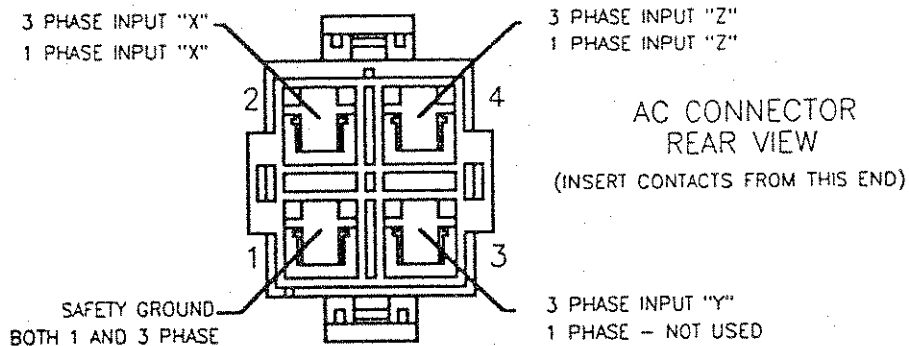

Figure 2.5-4 AC Wire Locations
5. Insert contact with attached wire into the connector until lock snaps into place. See **Figure 2.5-3 Contact Orientation** and **Figure 2.5-4 AC Wire Locations** to complete the connector for either single or three phase input.